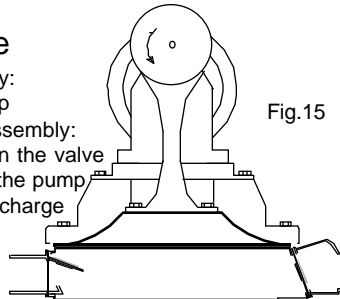

Fig.15
- Raising the diaphragm creating a vacuum. See Fig.15